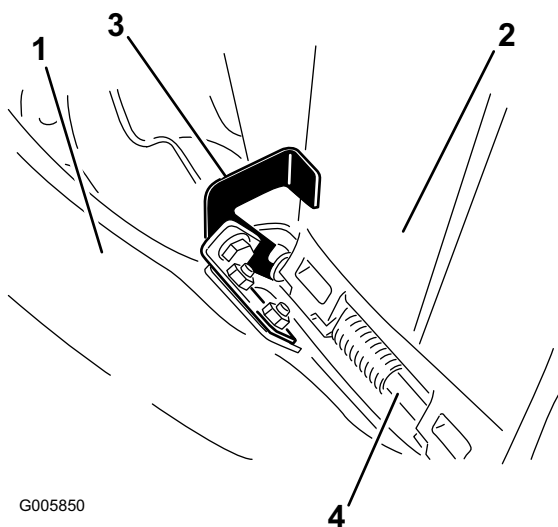

Figure 15
6. On the top of the chute, engage the hook shaped latch around pivot rod of the deflector assembly as shown in Figure 15.